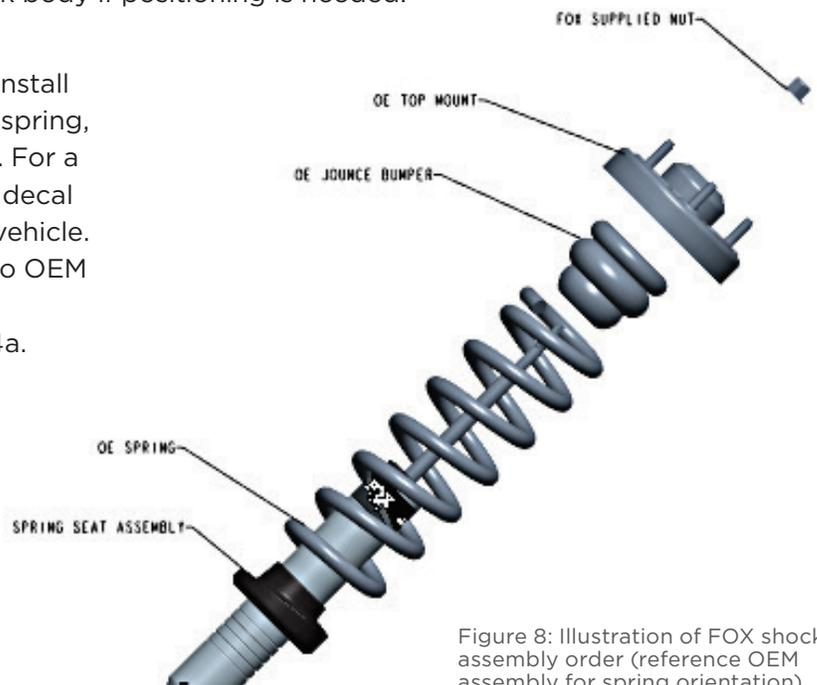

Figure 8: Illustration of FOX shock assembly order (reference OEM assembly for spring orientation)
- 5b. Position onto FOX shock the snap-ring, spring seat, and lower seat (Figure 8).